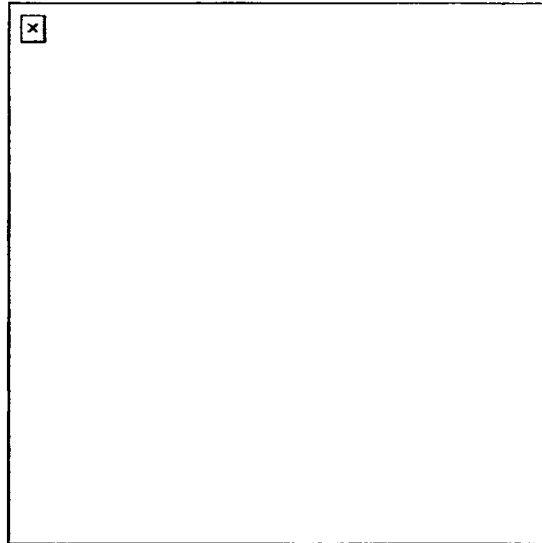

Figure 191-381-1317-1
- (1) The facility commander (or his representative) visits twice each day. That person records the time of the check and the conduct of the internee, then signs the form.
- (2) The installation, facility, or MP duty officer checks twice each day. That person records the time of the check and signs the form (Figure 191-381-1317-1).